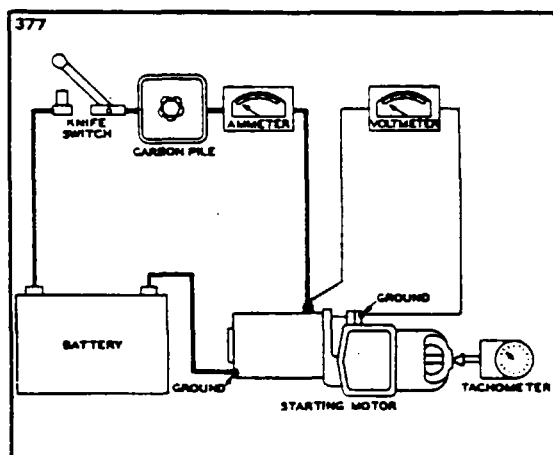

Figure 11-42. No-Load Test Hook-up
a. After the starting motor is reassembled, it should be tested to see that the no-load current at a certain voltage is within specifications as given in paragraph 11-74. To make this test, connect as shown in Figure 11-42. If current is too high, check the bearing a-